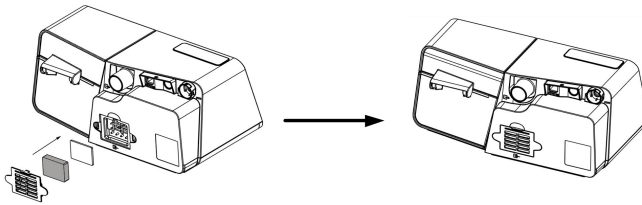

Fig. 12-3
(3) Install the filter cap containing the reusable air filter/disposable ultra-fine filter to the device, as shown in Fig. 12-3.